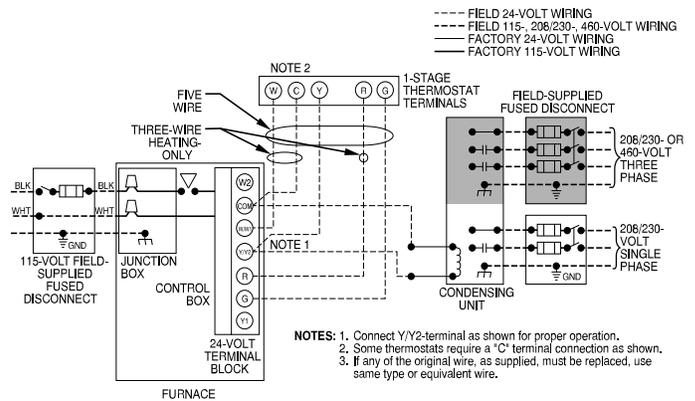

Fig. 34 – Typical Two-Stage Field Wiring Diagram
See Fig. 34 for field wiring diagram showing typical field 115-V wiring. Check all factory and field electrical connections for tightness.
- Connect power cord power and neutral leads to furnace power leads as shown in Fig. 34.
- Connect field power and neutral leads to furnace power leads. as shown in Fig. 34.
Make field 24-V connections at the 24-V terminal strip. See Fig. 39. Connect terminal Y/Y2 as shown in Fig. 34 for proper cooling operation. Use only AWG No. 18, color-coded, copper thermostat wire.